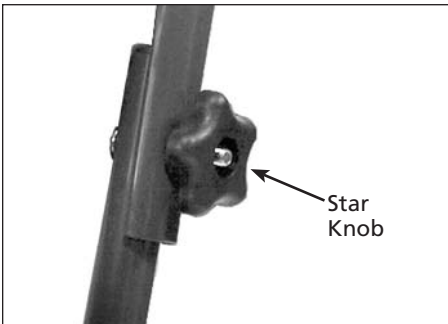

Figure 4 - Assemble handle
1. Slide the handle assembly over the lower legs of the cart base. Use the supplied nuts and bolts to secure the handle to the legs (see Figure 4).